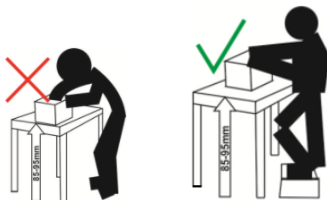

Fig. 3
- Place it on a stable, flat and rigid surface. For optimum user comfort, the appliance must be placed between 85 and 95 cm from the ground (Fig. 3)